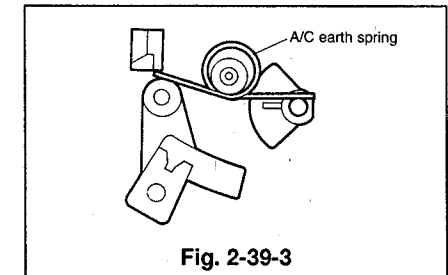

Fig. 2-39-3
- ① Make sure that the spring (A/C earth spring) is as shown in Fig. 2-39-3.